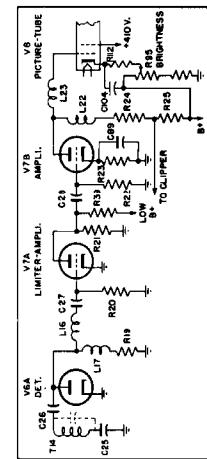

Fig. 4. Video Detector and Amplifier
3. VIDEO DETECTOR AND AMPLIFIER (SEE FIGURE 4)—The video i-f amplifier output is applied to one section of a 6AL5 dual diode, V6A, which is connected as a shunt diode so as to develop a negative-going signal across the diode load resistance, R19. The signal is then amplified by two triode amplifier stages using a Type 12A07 dual triode tube, V7. L16 and L23 are series compensating coils, while L22 and L17 are shunt compensating coils. These are used to obtain good high frequency response and provide sharp cut-off at frequencies above the usable pass band. L16 also helps prevent harmonics of the i-f frequency from being passed through the video amplifier.